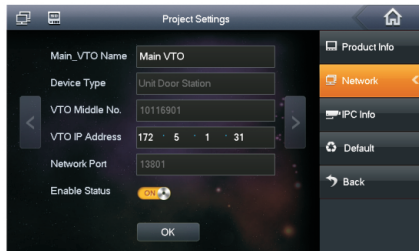

Figure 5–5
Step 4 Press Network, input VTO IP Address. See Figure 5– 5.